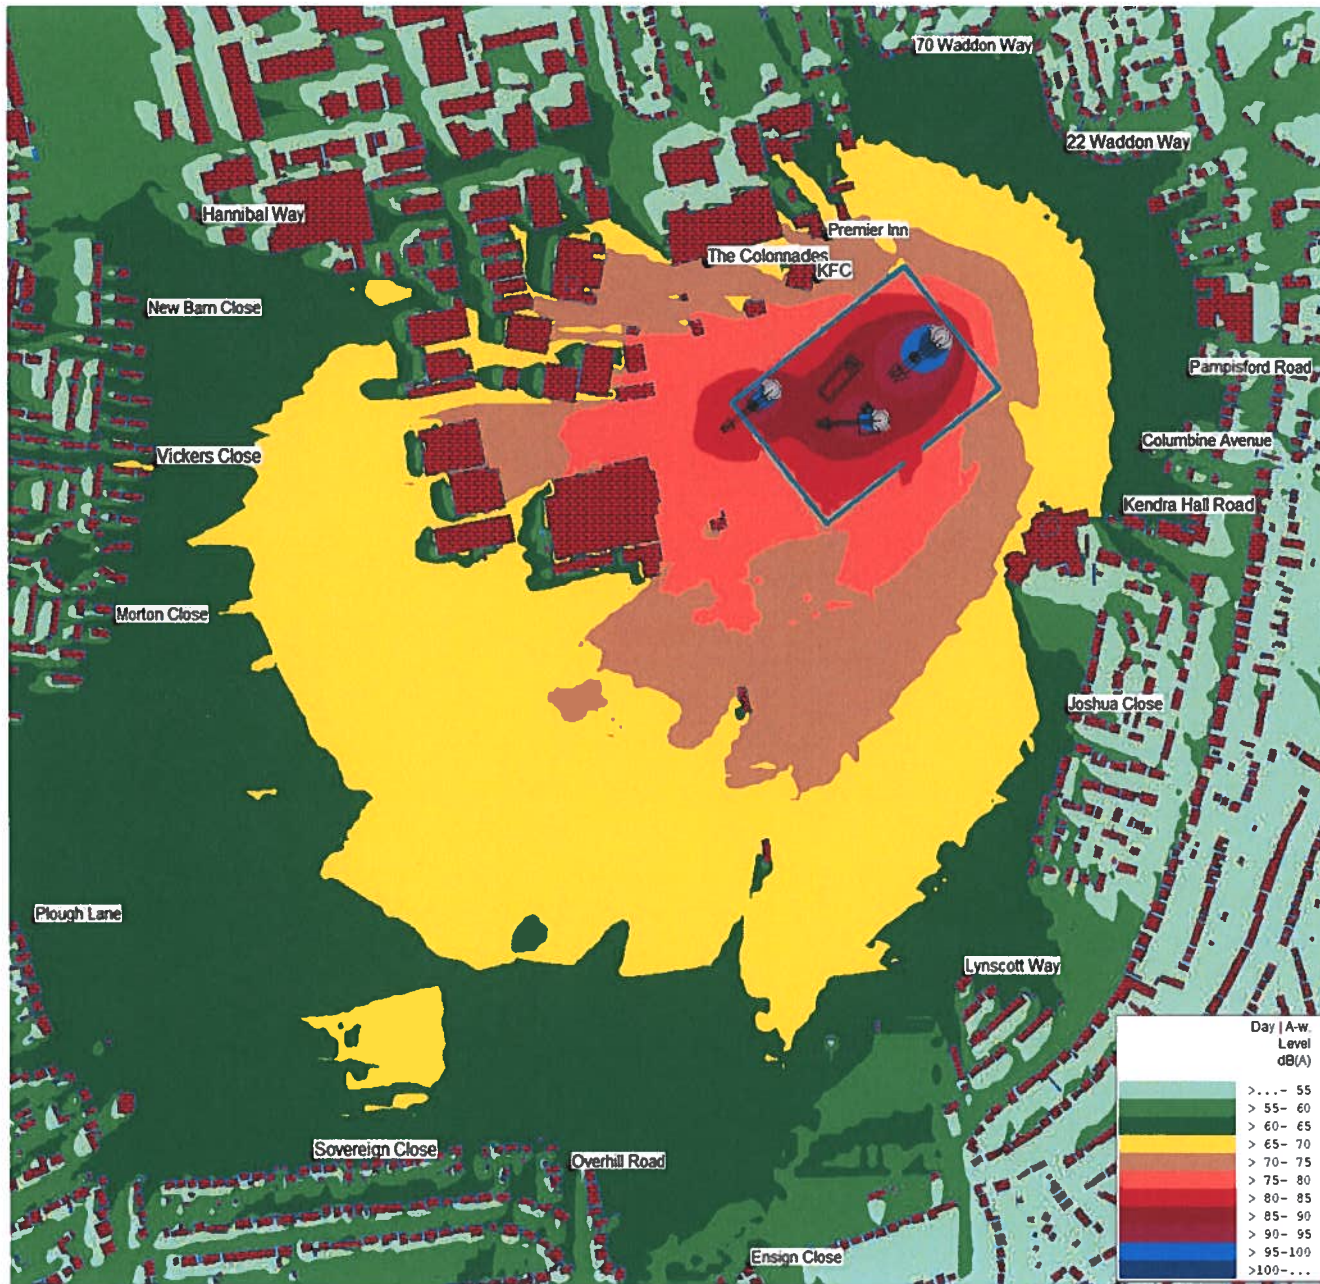

Figure 1 Noise contours and noise sensitive receptors in relation to the proposed site.
- 3.2. The receptors considered to be the nearest noise sensitive locations are presented in Table 3 with their respective predicted A- and C-weighted entertainment noise levels. They are also indicated in the noise contour map at Figure 1 overleaf.